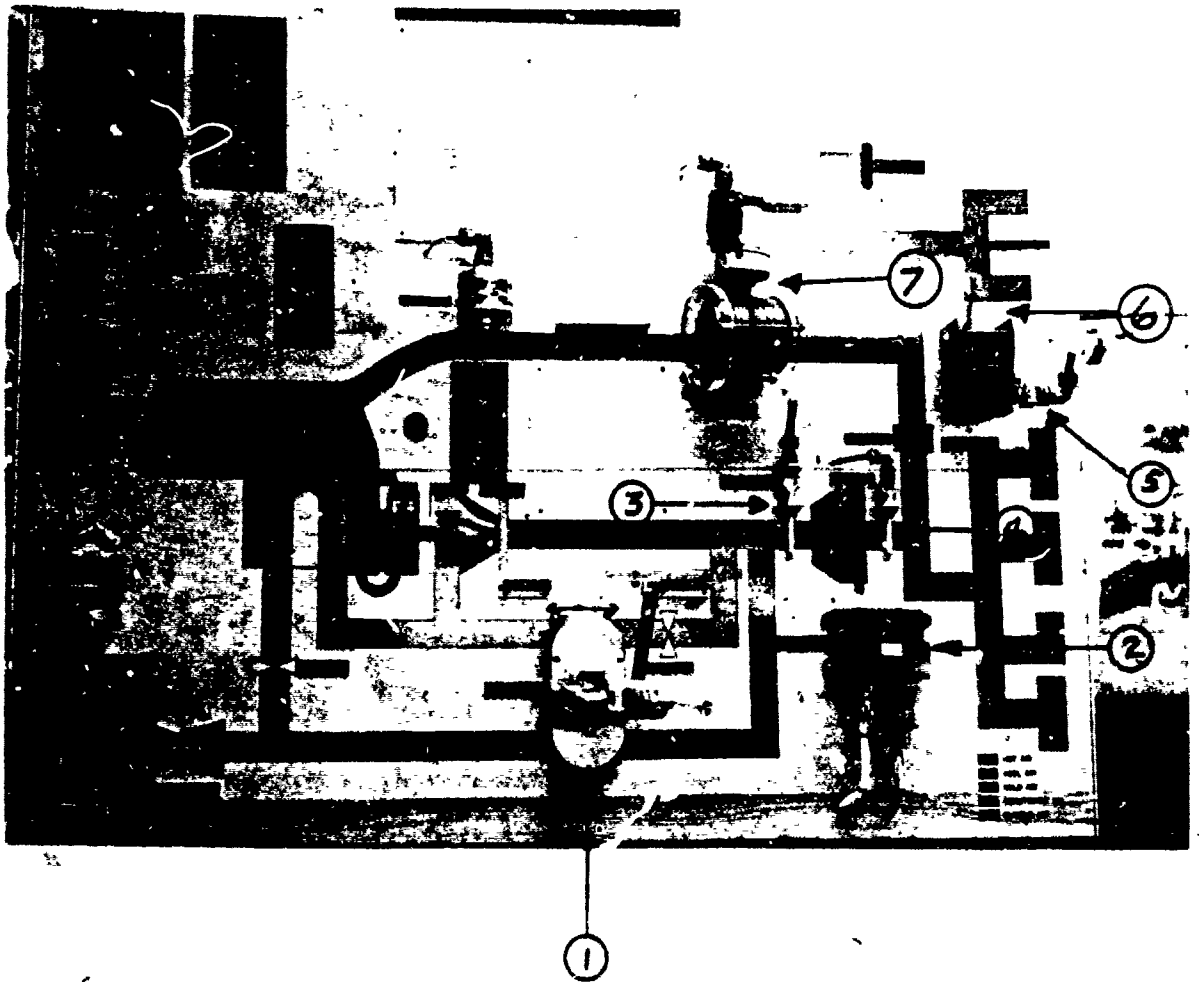

Figure 1.
a. Using the trainer and the illustrations in figure 1, locate each of the numbered items. Write the name of each of these numbered items in the blank spaces below.
- (1) _____
- (2) _____
- (3) _____
- (4) _____
- (5) _____
- (6) _____
- (7) _____